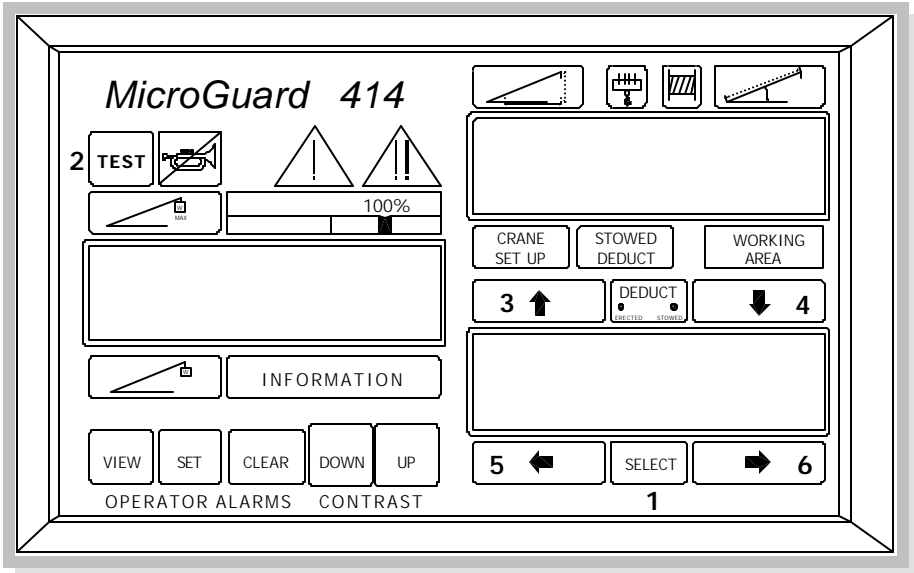

FIGURE 4.20 OPERATOR DISPLAY PANEL
4. Access the calibration test by simultaneously pressing and holding the SELECT (1) and TEST (2) keys (Figure 4.20).